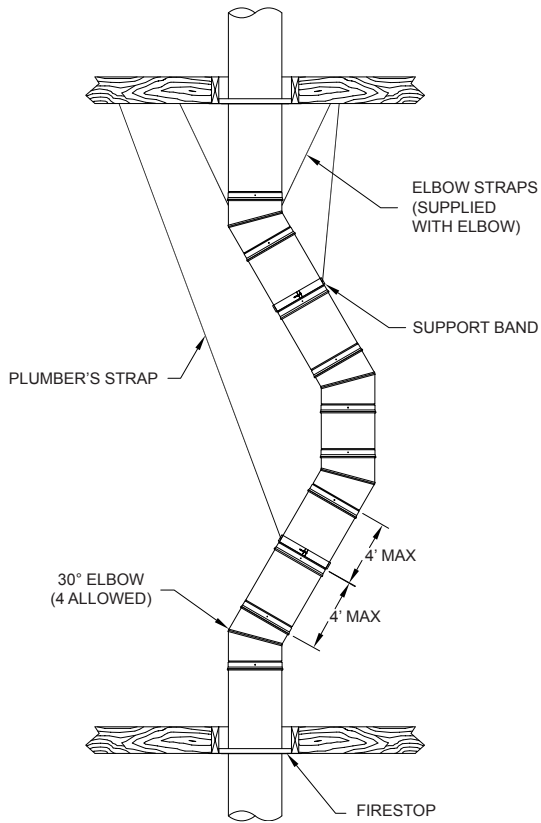
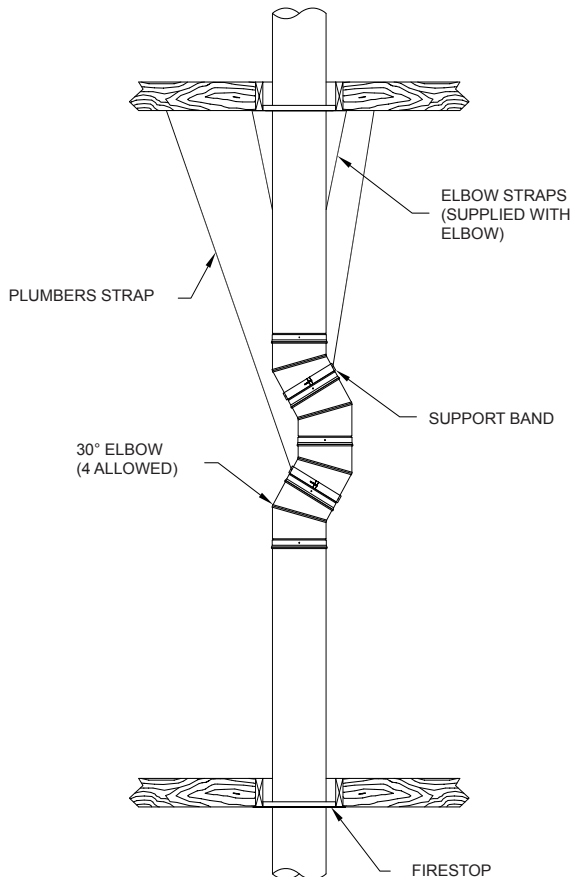
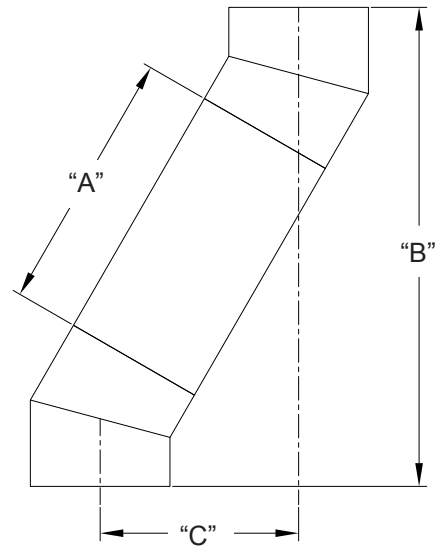

FIG. 15
FIG. 15A
FIG. 16
**Elbow Installation:** 15° and 30° elbows are provided to allow chimneys to avoid framing members or roof peaks. A maximum of 30° from vertical is allowed and a total of four 30° elbows (**FIG. 15**) for each chimney installation. A 2" clearance to combustibles must be maintained. A "listed and approved" mechanical fan may be used for drafting issues. Check with mechanical fan company for viability of performance.
Attach the elbow to the chimney pipe, support or other part. Using the offset chart, add chimney sections between elbows, as shown in **FIG. 16** and **TABLE 2**. A Support Band or plumbers strap is required for every 4 foot interval between elbows to support the load as shown in **FIG. 15**. Attach the upper elbow to bring the chimney back to vertical. The elbows may be installed back to back as shown in **FIG. 15A**.